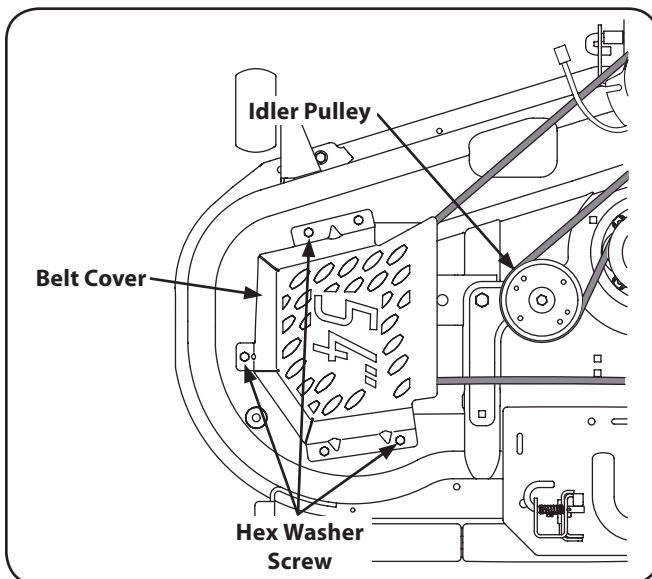

Figure 7-7
2. Remove the belt guards by removing the hex washer screws that fasten them to the deck. See Fig. 7-7.